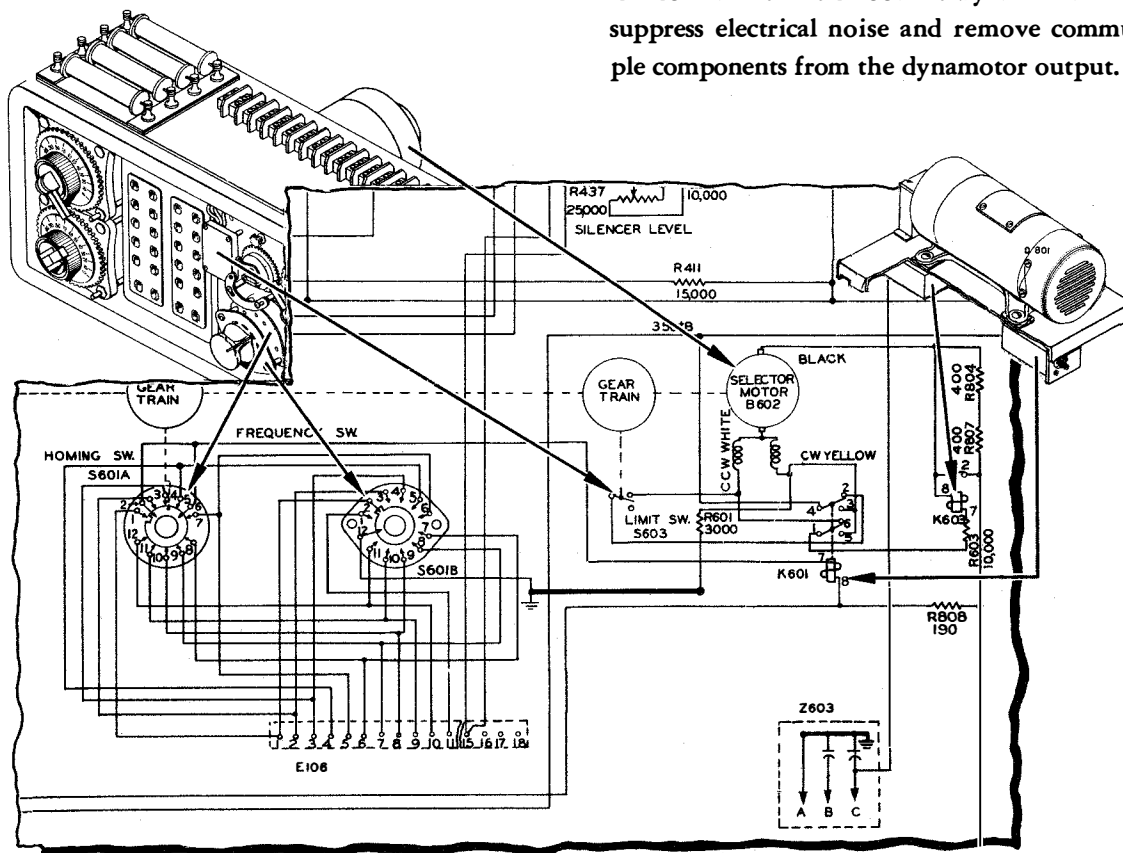

Figure 2-8. Dynamotor and Selector Circuits
bias on the silencer amplifier grid and drive it negative, plate current flow will cease. The resultant decrease in potential across R409 will reduce the bias on the grid of the audio amplifier and allow the amplifier to function. When the signals cease, the circuits will return to the original condition with the audio amplifier inoperative. The setting of the silencer level control on the panel determines the point at which signals can pass. This control should not be set higher than will permit the weakest signal to be received to override the positive bias on the silencer amplifier. On receivers with Serial Nos. 1 to 500, a switch is provided on the panel to cut off the silencer circuit; but on equipments with Serial Nos. 501 and up, the switch is connected to control the noise limiter circuit. In these equipments the silencer may be cut off by rotating the silencer level control to the maximum counter-clockwise position. The silencer circuit is connected to terminal 15 on terminal board E106 (See Figure 2-8) to allow connections being made to control the silencer circuit from a remote position.
(1) CHANNEL SELECTOR MECHANISM.—The tuning of the receiver to the ten present channel frequencies is accomplished by two selector units, one to adjust the r-f section, the other the multiplier. The selectors are mounted in the selector housing and are geared to a motor which is controlled by a system of switches and relays. The electrical circuits employed with the motor and relays are shown in Figure 2-8.